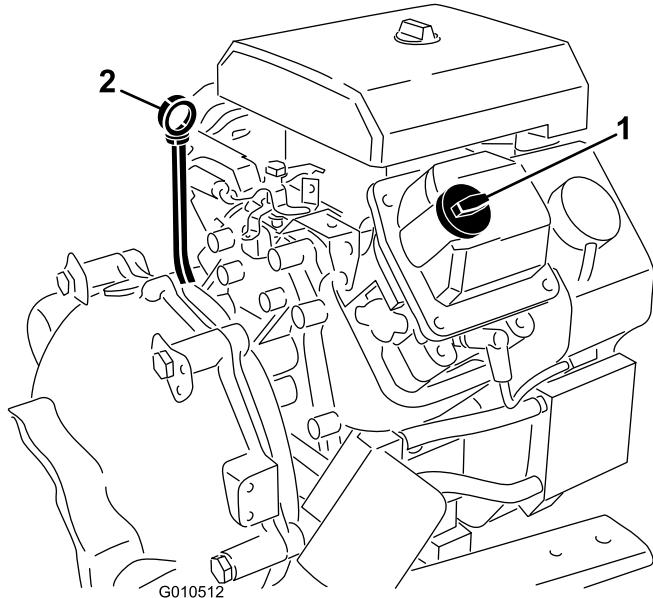

Figure 11
2. Remove the dipstick (Figure 11) and wipe it with a clean rag.
5. If the oil level is low, remove the filler cap (Figure 11) and add enough oil to raise the level to the Full mark on the dipstick.